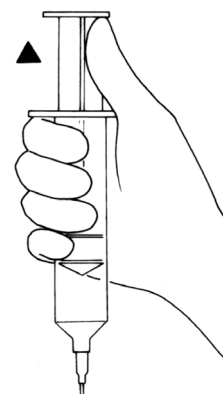

Figure 4-3a. Aspirate Air
5. Aspirate any air left in balloon until you feel resistance on syringe plunger. (**Figure 4-3a**)